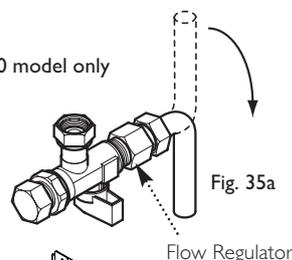

Fig. 35a
**IMPORTANT:** ONLY on 40 models the Cold Water Inlet tap is fitted with a flow regulator. The copper tail is factory fitted on this model, but must be loosened and turned through 180° to point downwards. Ensure the joint is fully tight (Fig. 35a).